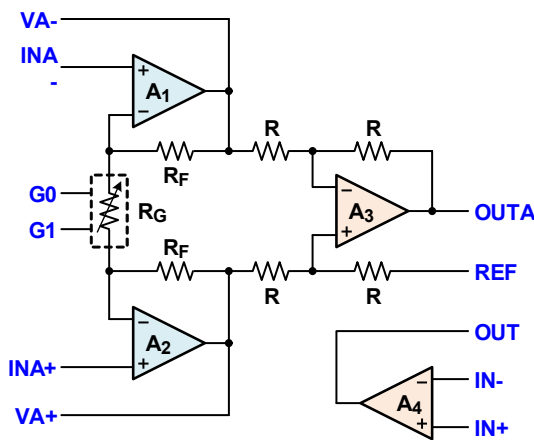
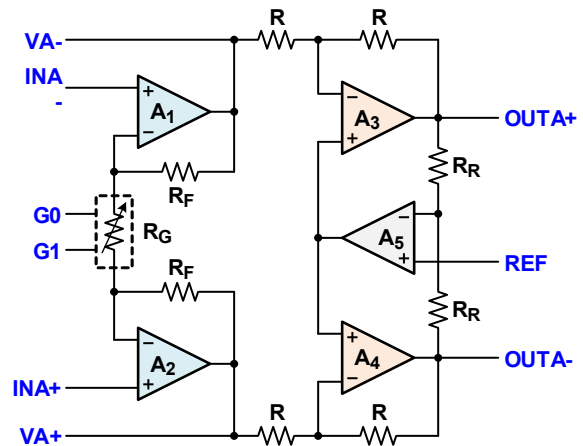

Figure 1. ISL2853x with Single Output and Uncommitted Zero-Drift Op-Amp
Figure 2. ISL2863x with Differential Output
Both amplifiers possess the same programmable input stage, whose output terminals, VA+ and VA-, allow for the sensing of the input common-mode voltage. Their outputs, however, differ. The ISL2853x provides a single-ended output and an uncommitted zero-drift op-amp (Figure 1), while the ISL2863x offers a fully differential output (Figure 2).
- Figure 1. ISL2853x with Single Output and Uncommitted Zero-Drift Op-Amp 1
- Figure 2. ISL2863x with Differential Output 1